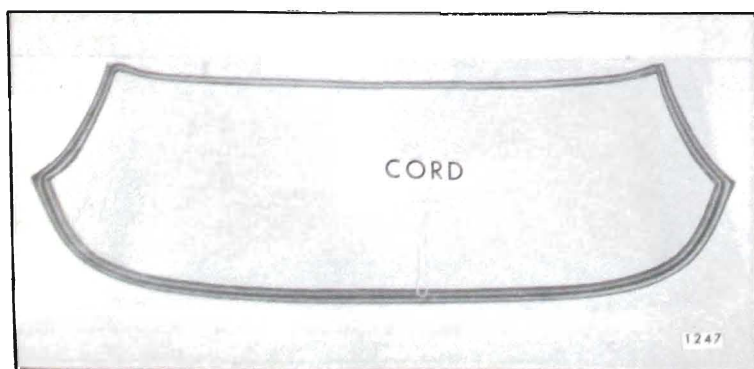

Fig. 3-16—Windshield Installation
- c. Insert a strong cord in pinchweld cavity of rubber channel completely around windshield. Tie ends of cord and tape to inside surface of glass at bottom center of glass (Fig. 3-16).